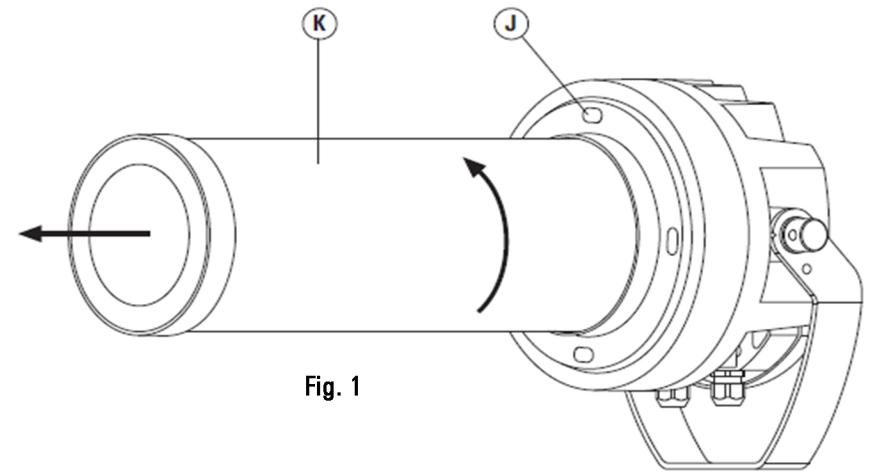

Fig. 1
1) **Fig. 1:** Slightly loosen the fasteners J; do not remove them. Turn the profile K to the left and carefully remove it by pulling it towards the front.